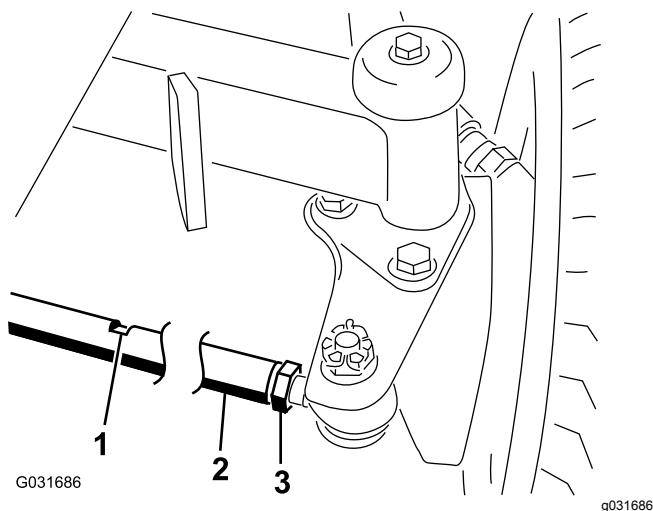

Figure 67
2. Loosen the jam nut on each end of the tie rod (Figure 67).